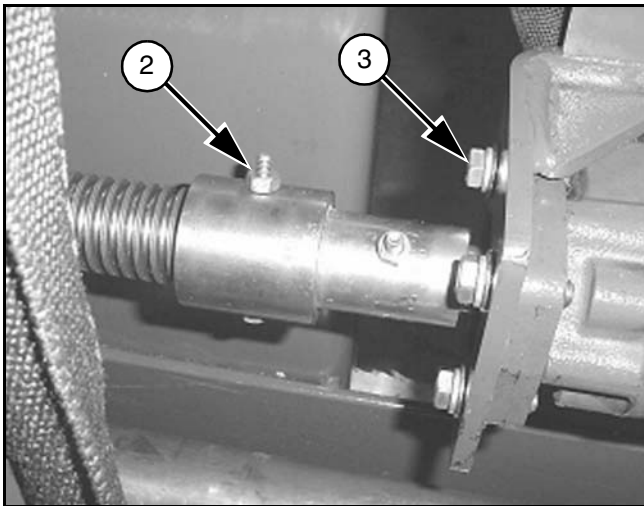

Figure 2
2. Remove 1/4" cross bolt (2) as shown in Figure 2.